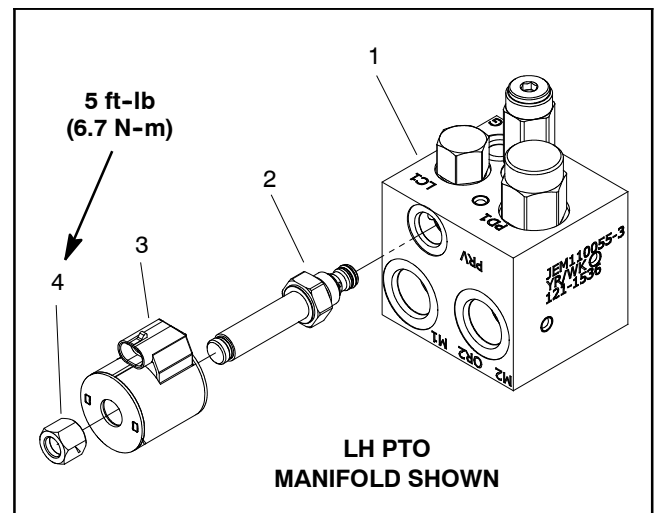

Figure 71
5. If solenoid valve coil resistance is incorrect, replace solenoid coil (Fig. 71):